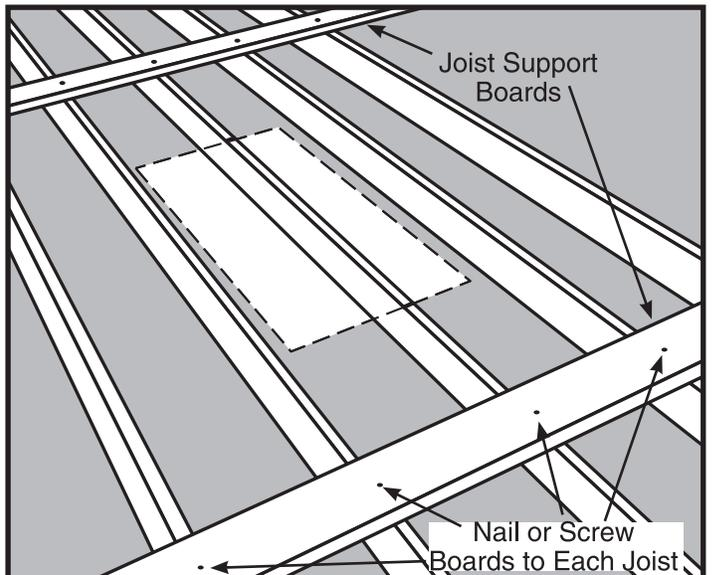

Figure 9
**Step 2.** Cut (2) joist-sized boards long enough to span (2) joists on each side of your chosen location (See Figure 9).
**Step 3.** Place these boards approximately 24" from the edge of your chosen location and nail (See Figure 9).